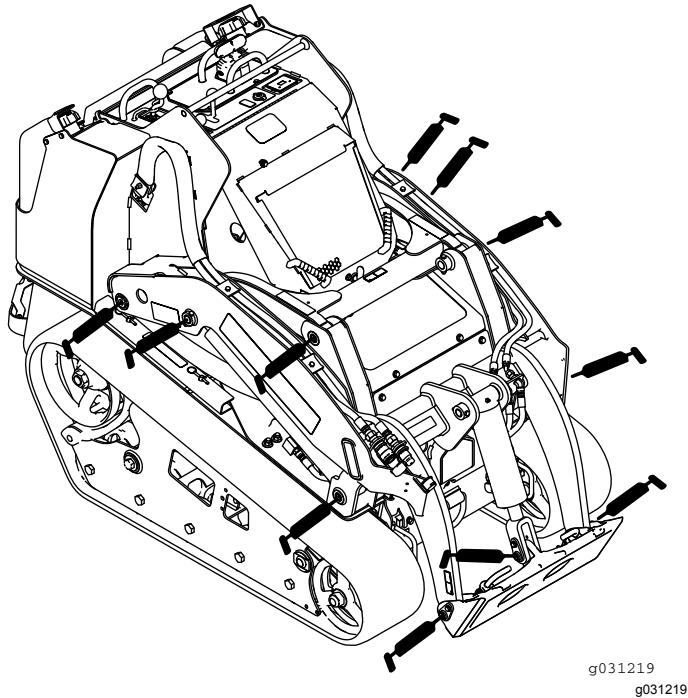
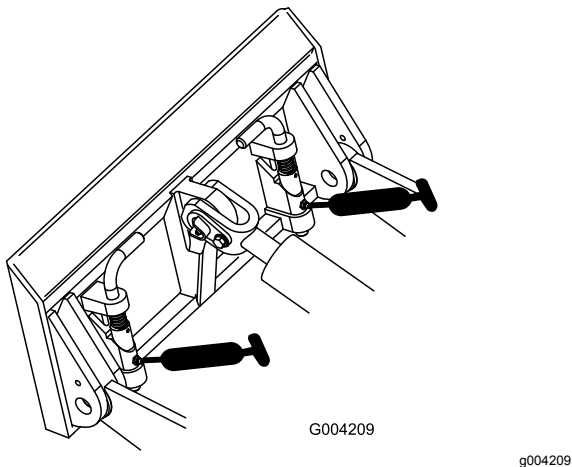
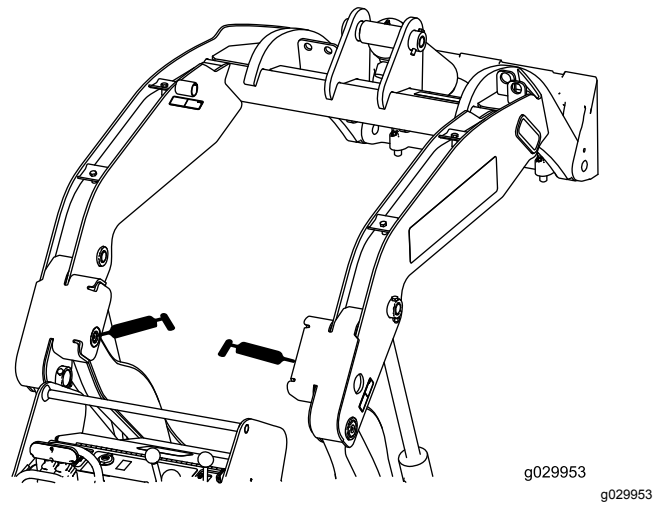

Figure 44
Figure 45
Figure 46
3. Connect a grease gun to each fitting (Figure 44, Figure 45, and Figure 46).
**Note:** Raise the loader arms before greasing the fittings in Figure 46.